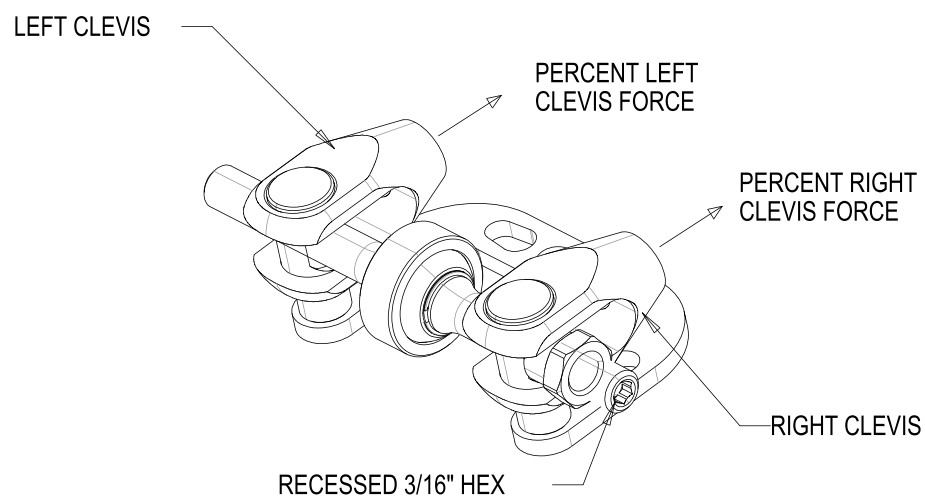

FIGURE 4:
3. Turn the bias bar by hand or by using the recessed 3/16" hex (Figure 4) in the end of the bias bar to set the desired spherical bearing position.